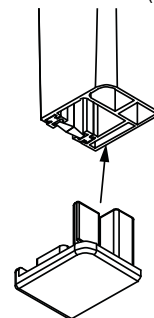

Figure 5
- ① Replace fascia and crank operator (if provided).
- ② Insert plug into lower end of side channel (see Fig. 5).